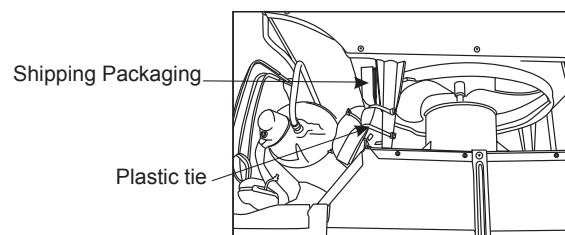

Fig. 7
10. Your unit may come with internal packaging. This packaging MUST be removed prior to installing the air conditioner back into the cabinet. (See Fig. 7.)